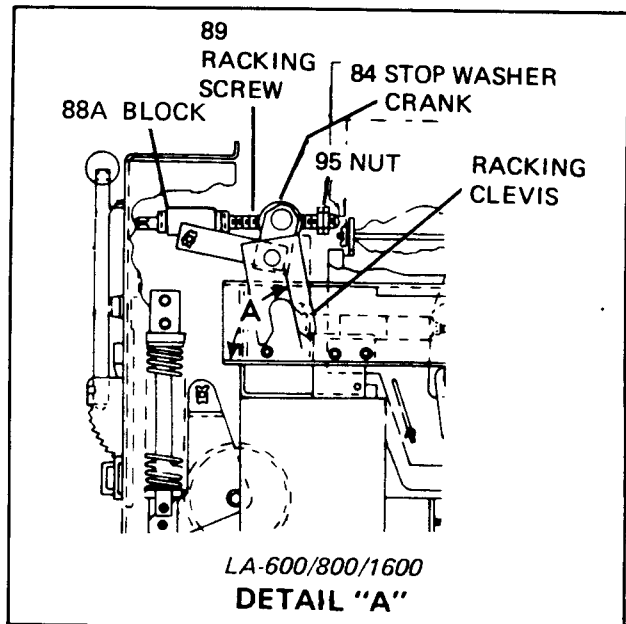

Figure 3. Detail of Typical Racking Mechanism and Drawout Interlock
Refer to Figures 3 and 3A, pages 8 and 9. With the circuit breaker resting on the cubicle rail, the following sequence should be used to rack the circuit breaker into the cubicle.
nected. Two stop nuts are provided on the racking screw to set the connected position. These are adjusted by setting the angle of the racking clevis, as shown in Detail A, Figure 3, and by tightening the nuts against the stop washer (84), the two nuts (95), should then be locked against each other.